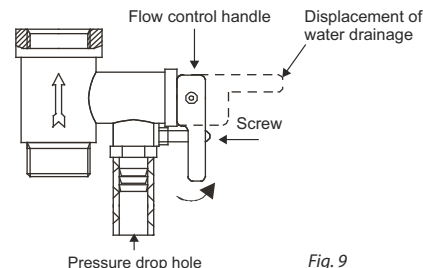

Fig. 9
- unscrew the back pressure safety valve screw and set the handle in horizontal position; water will flow out from the pressure relieving opening (refer to the figure 9).